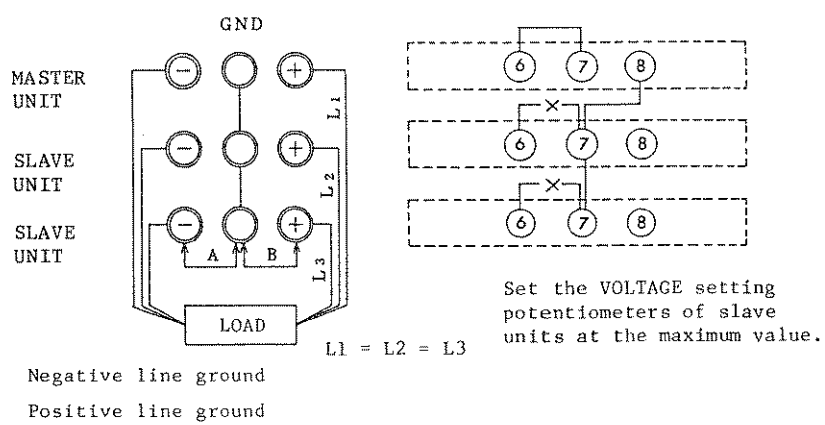

Figure 3-23. One-control parallel operation
- (4) Carefully install the PC board and the cover.
- (5) Connect the jumper to between terminals ⑥ and ⑦ of the rear terminal block of the master unit.
- (6) Disconnect the jumpers from between terminals ⑥ and ⑦ of the slave units.
- (7) Connect terminal ⑧ of the master unit to terminal ⑦ of all slave units. (See Figure 3-23.)
- (8) Connect the output terminals of all units to the load, using wires of the same gauge and the same length. (Note that the current distribution may become ununiform unless wires of the same gauge and length are used for wiring to the "+" OUTPUT terminals or, to put it more accurately, unless the potential differences between the "+" OUTPUT terminals of the instruments and the "+" terminal of the load are uniform.)
- (9) Turn the VOLTAGE setting potentiometers of the slave units to the clockwise extreme position. Turn on the OUTPUT switches of the slave units.
- (10) For remote control operation, control the master unit.
- (11) Post the following seal (supplied) on the transparent cover above terminals ⑥ and ⑦ of each unit: